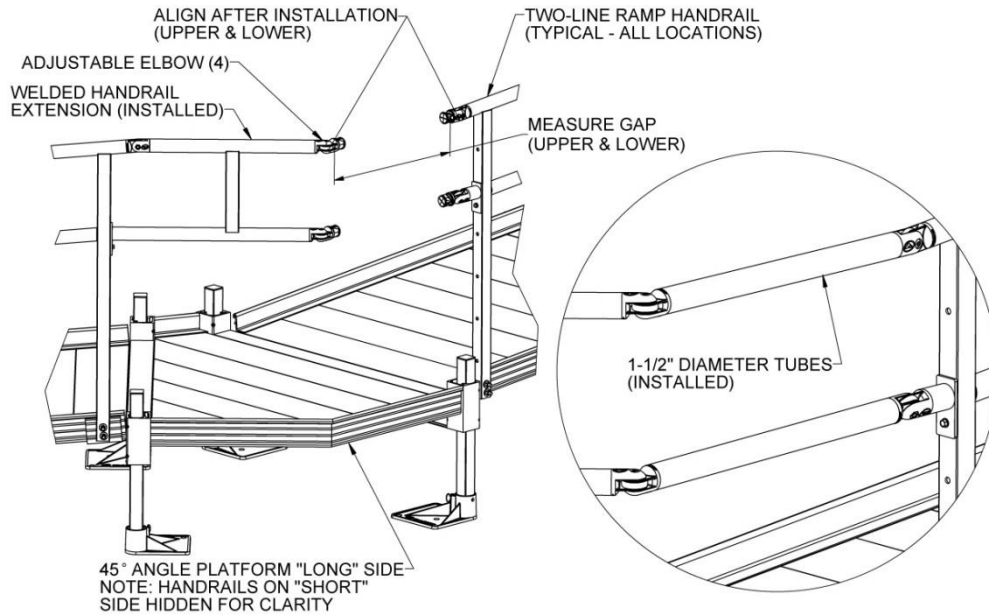

FIG. 4.19
- 4.8.12. Insert adjustable elbows into the open ramp handrail, the Bolt-On Stub Rail and the open ends of the welded handrail extension (FIG. 4.19).
- 4.8.14. FIG. 4.19 shows the completed connection.